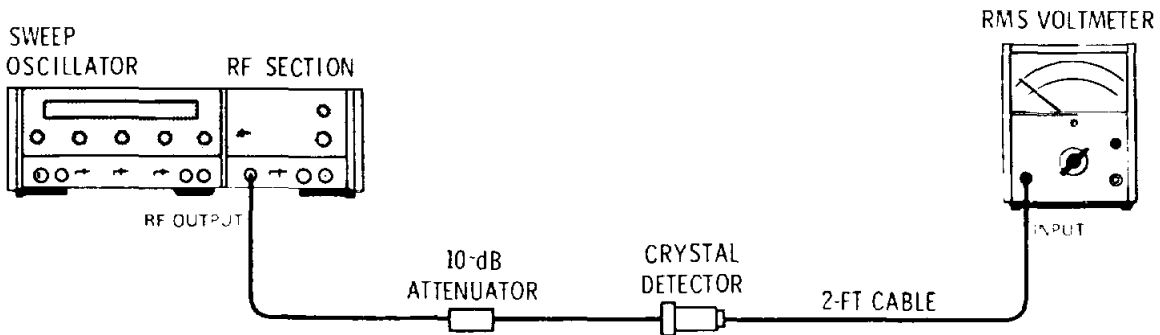

Figure 4-8. Residual AM Test Setup
a. Connect equipment as shown in Figure 4-8.